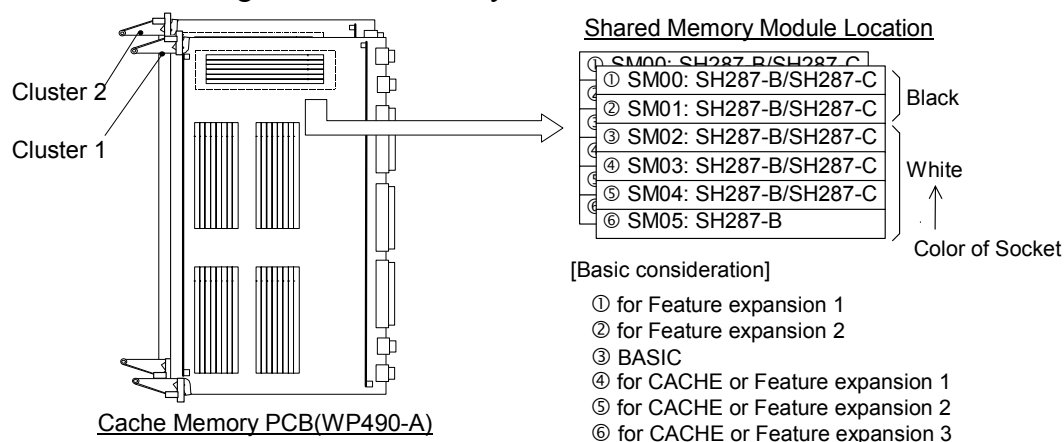

Fig. 3.7.1-3A Actual location of shared memory module
Note. 1: Location ①-⑥ shows actual location of shared memory module on Cache PCB. (Refer to Fig. 3.7.1-3A)